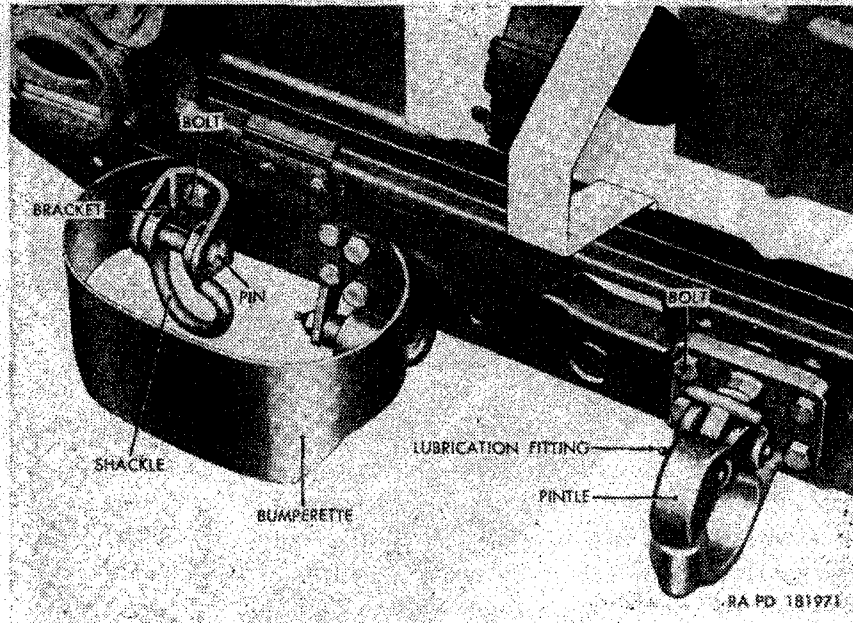

Figure 190. Left rear lifting shackle, bumperette, and towing pintle—installed.
b. Rear Lifting Shackles and Brackets (fig. 190).